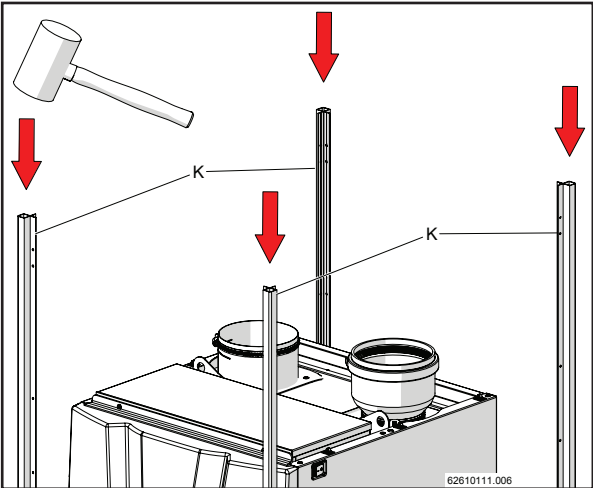

Figure 15-9
- 5.- Insert the four tubes "K" in correspondence with the pins present on the lower framework "J" using a rubber mallet (figures 15-9 and 15-10).